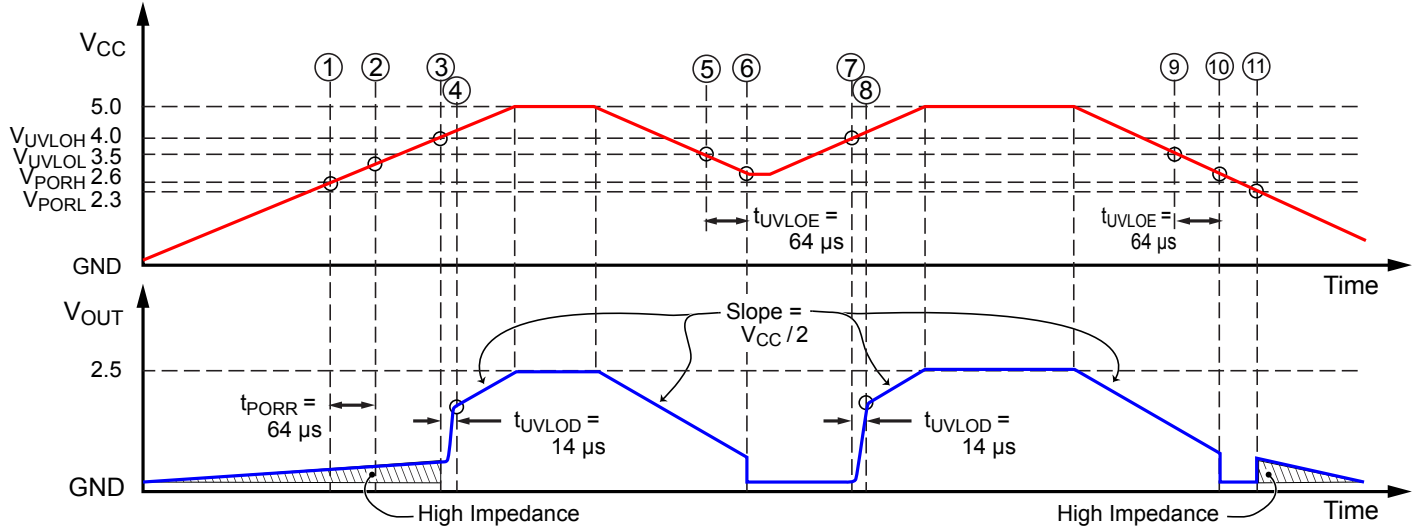

Figure 4: POR and UVLO Operation: Slow Rise Time case
- **Power-Up** At power-up, as V_{CC} ramps up, the output is in a high impedance state. When V_{CC} crosses V_{PORH} (location [1] in Figure 4 and [1'] in Figure 5), the POR Release counter starts counting for $t_{PORR} = 64 \mu s$. At this point, if V_{CC} exceeds $V_{UVLOH} = 4 V$ [2'], the output will go to $V_{CC} / 2$ after $t_{UVLOD} = 14 \mu s$ [3']. If V_{CC} does not exceed $V_{UVLOH} = 4 V$ [2], the output will stay in the high impedance state until V_{CC} reaches $V_{UVLOH} = 4 V$ [3] and then will go to $V_{CC} / 2$ after $t_{UVLOD} = 14 \mu s$ [4].